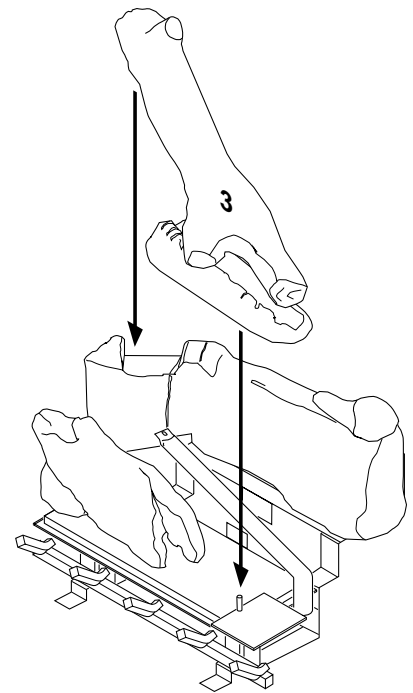

Figure 53 - Installing Log Assembly No. 3
3. Place log #3 (crossover assembly) onto the front right pin on front burner with the crossover log resting in notch on back log (see Figure 53).